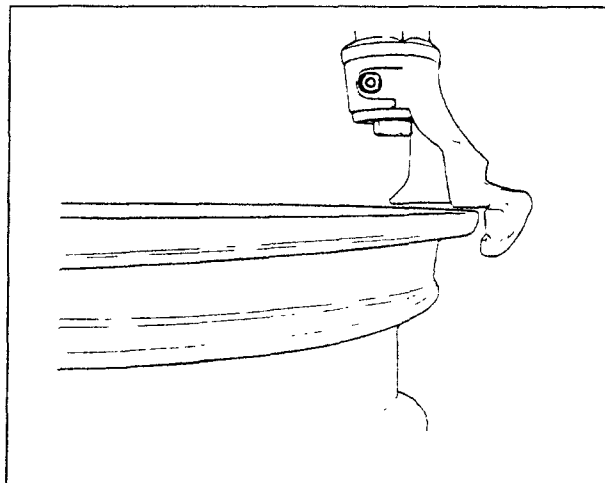

Fig.11
E. Position the mount/demount head in contact with rim edge and lock it into place. The tool automatically moves away from the rim edge vertically. Turn the adjustment knob until the mount/demount head clears the rim flange about 1/16" (2 mm); this is necessary to avoid any rim damage (Fig.11).